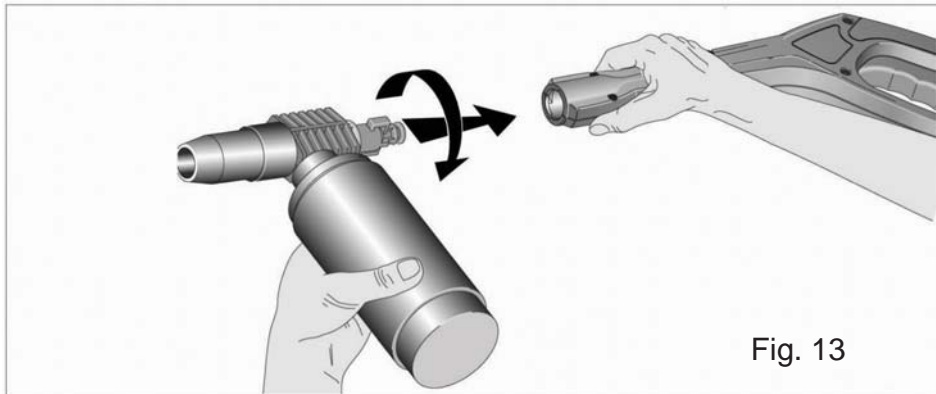

Fig. 13
- 3) Attach the assembly to the gun. (Fig.13)